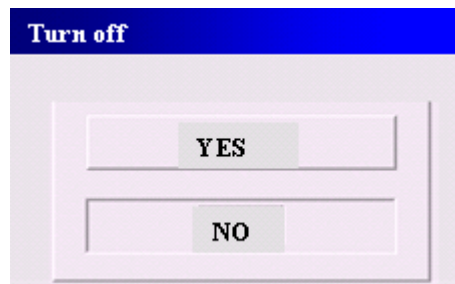

Fig. 5.10. GPR detector power off window
6. to power off the device, the red button should be pressed and held down for 5 sec. In any running mode, the power off window calls up (fig. 5.10), pressing of the yellow button selects "YES" item and brief pressing of the red button powers off the GPR detector.